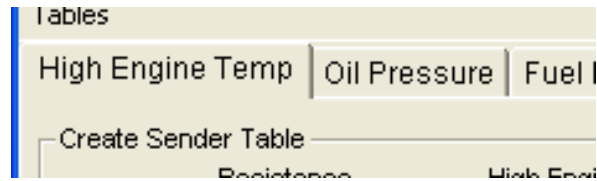

Figure 39 – Analog Type Tab in Utility
1. Open up the Utility and click on the sender type tab. In Figure 39 the High Engine Temp tab is selected.